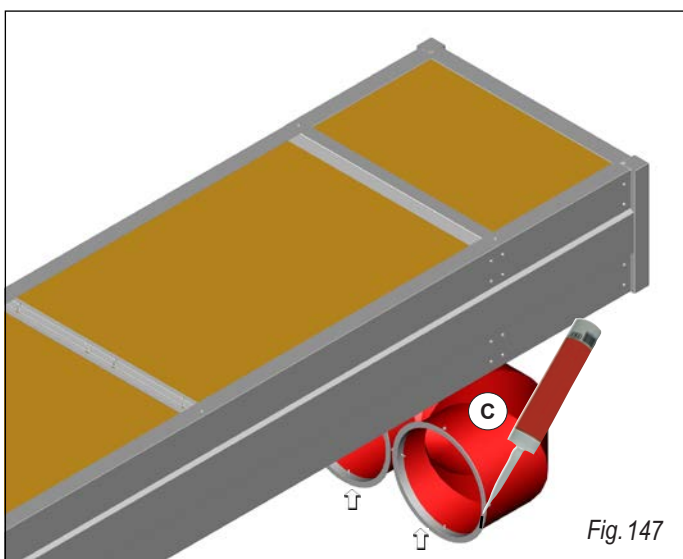
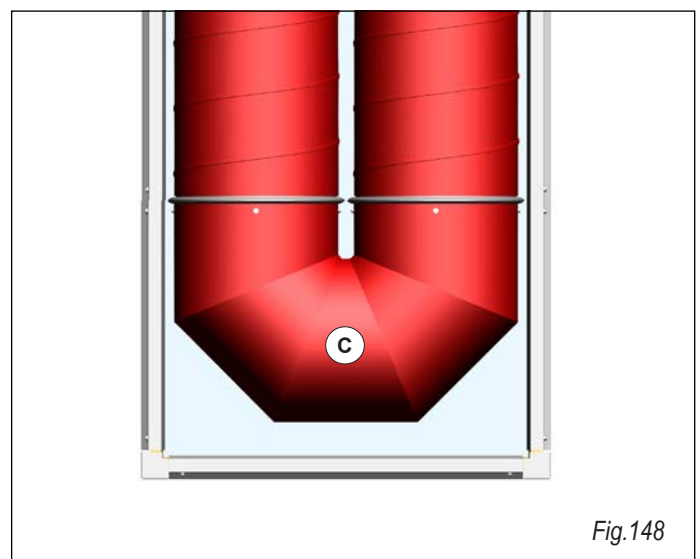

Fig. 147
Fig.148
Put a rim of silicone in both sides of the coupler flange of the elbow as in fig. 147. Place the elbow flanges (C) in the flanges of the first radiant belt unit, engage the closing ring, fasten the two flanges with the nut and lock nut. The terminal module at the end of installation is shown in fig. 148 from the bottom looking up.